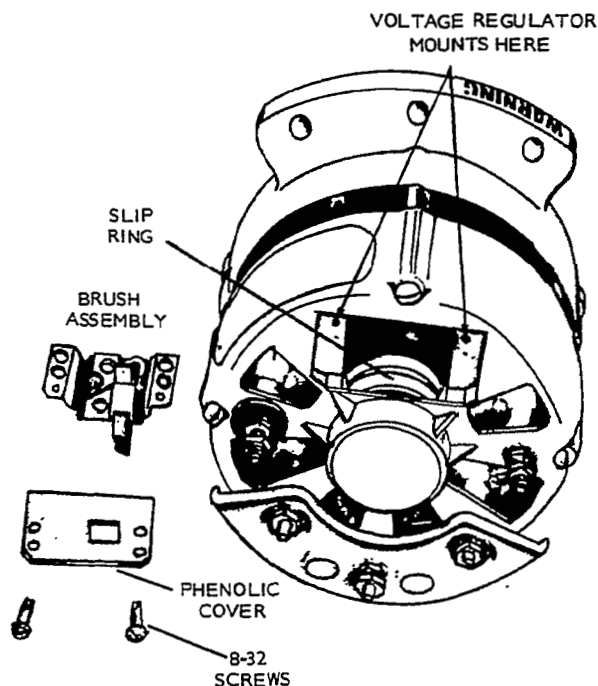

FIGURE 99. OPTIONAL, BATTERY CHARGING, EXTERNAL ALTERNATOR
5. Reverse procedure for assembly (Figure 99).